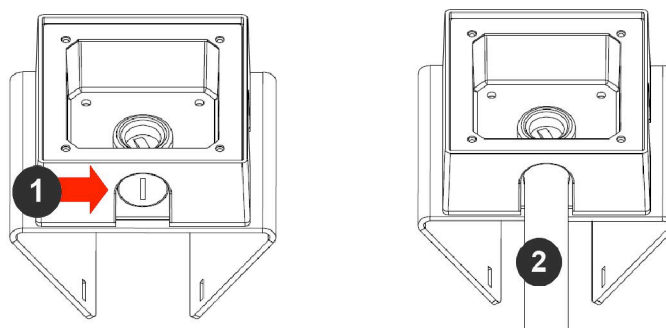

Figure 1: Attach conduit to AV-JBA junction box adapter
3. Attach the Junction Box Adapter to the Pole Mount Adapter as shown in Figure 1.
4. Remove the conduit plug on the junction box adapter and connect  $\frac{3}{4}$ " NPT conduit to the junction box adapter (Figure 1).